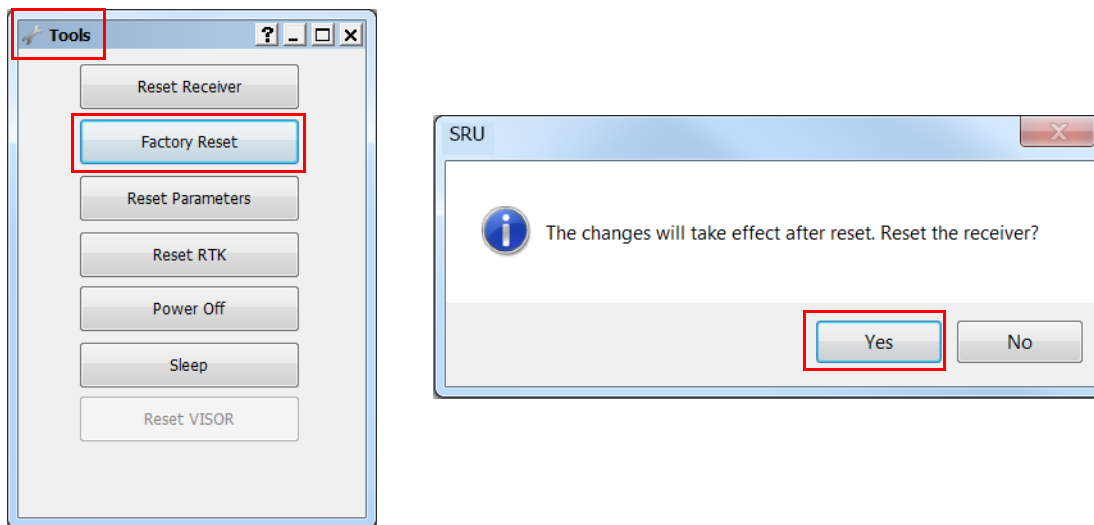

Figure 5-11: Tools Window
6. Click the **Tools**  icon in the main screen. The **Tools** window appears, enabling you to reset the receiver and clear the NVRAM (Figure 5-11).